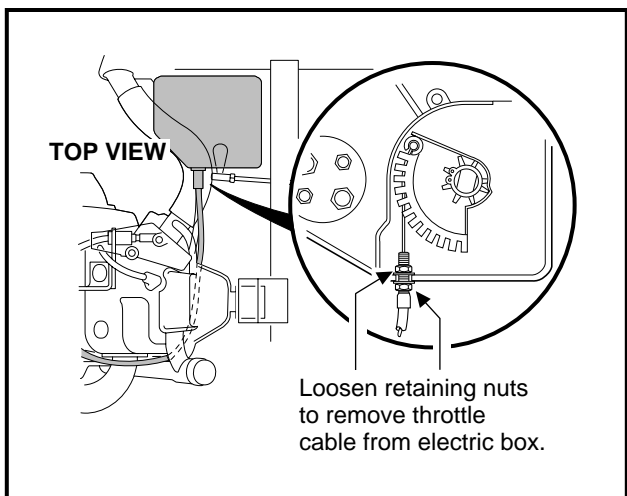

Figure 16-13 Throttle Cable
- 3.5. Remove the cover from the electrical component box. Then loosen the hardware securing the accelerator cable to the box. Disconnect the cable from the actuator cam and remove it from the box (**Figure 16-13, Page 16-8**).